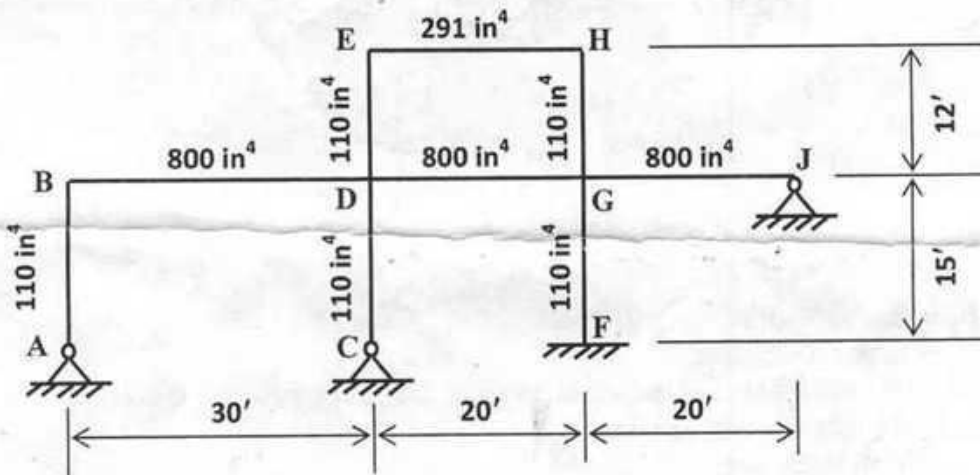

Fig. 5
8. Determine the effective length coefficients for the columns of the frame shown in Fig. 5. The moments of inertia in  $\text{in}^4$  for the columns and beams are shown in the figure. Annexure-5 provides necessary nomographs. 8 1/3